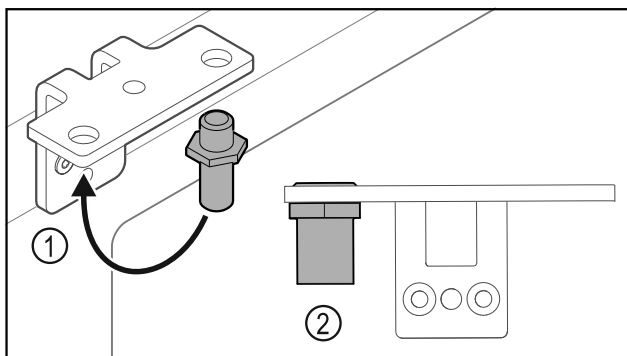

Fig. 29
- Put the pin back into the hinge Fig. 29 (1).
- Tighten the pin Fig. 29 (2) to a **torque of 12 Nm**.